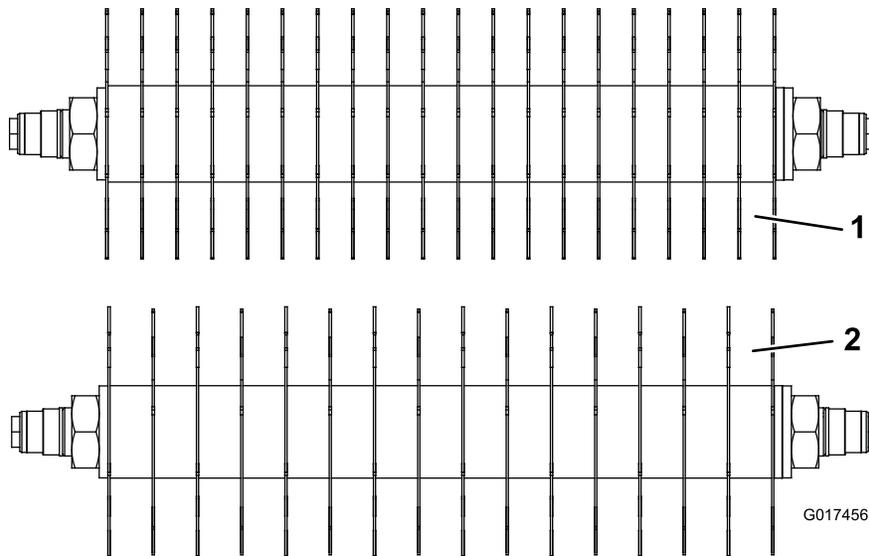

Figura 14
(19) new spacers, part no. 93-3092 and an additional (4) carbide blades, part no. 106-8625 or an additional (4) regular blades, part no. 93-3038-03 (Figura 14).